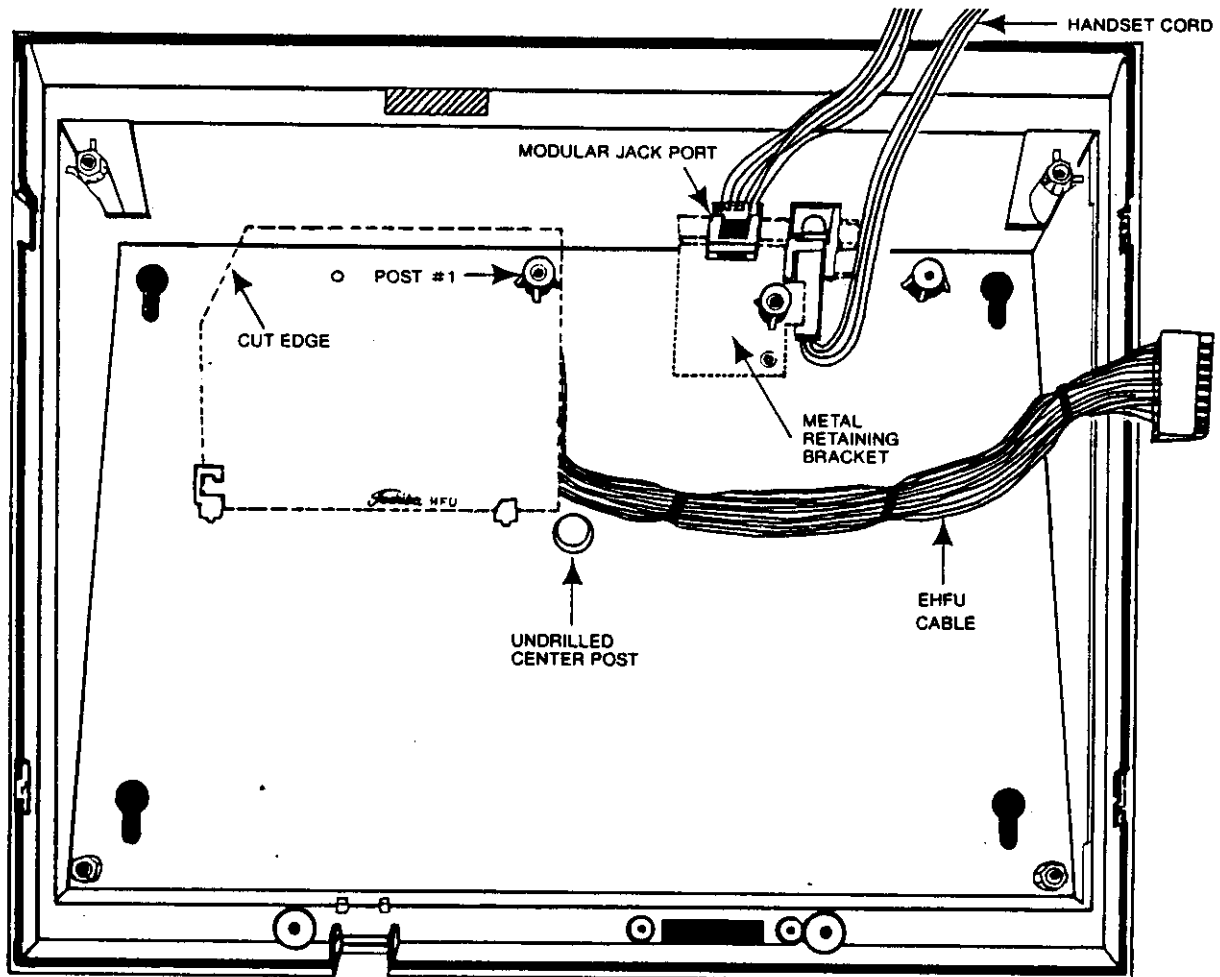

FIGURE 3—PLACEMENT OF EHFU PCB IN EKTW
2.2.2 If the EHFU PCB is to be installed in an EKT W, position it as shown in Figure 3. Use the self-tapping screw provided with the EHFU PCB, to secure the PCB to support post #1. Drape the EHFU connector cable and handset cord over the sides of the EKT W case as shown in Figure 3.